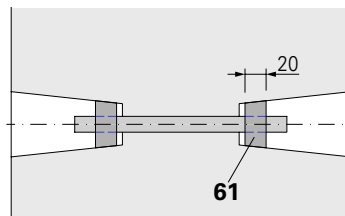

Fig. 12
3. Insert the lead cone (**61**) into the recess. (Fig. 12)